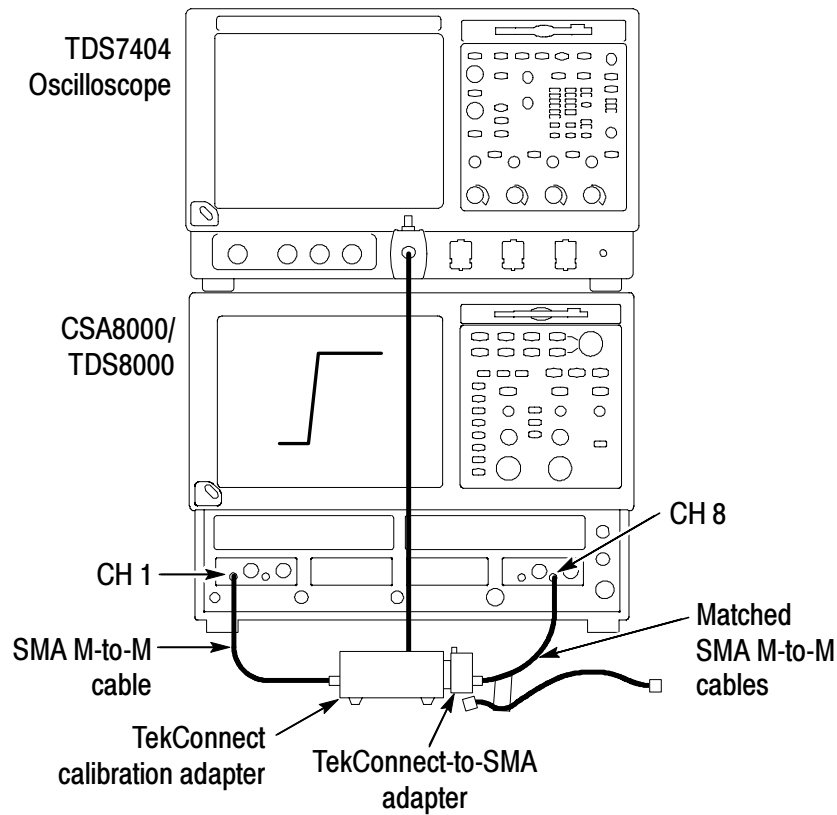

Figure 31: Test system rise time setup
2. Connect the test equipment as shown in Figure 31 on page 61.
9. Adjust the oscilloscope horizontal and vertical position controls to display a signal similar to that shown in Figure 31.